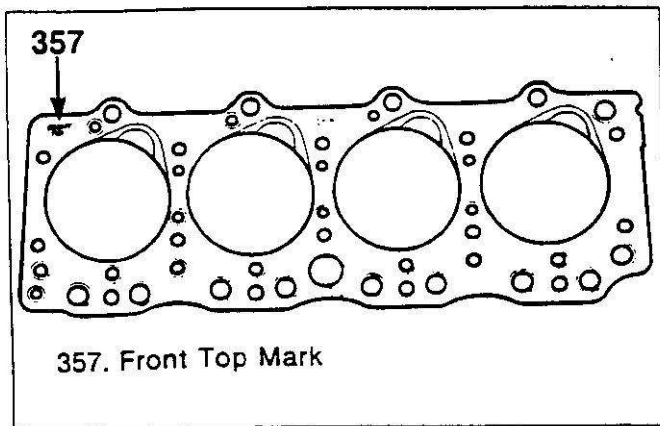
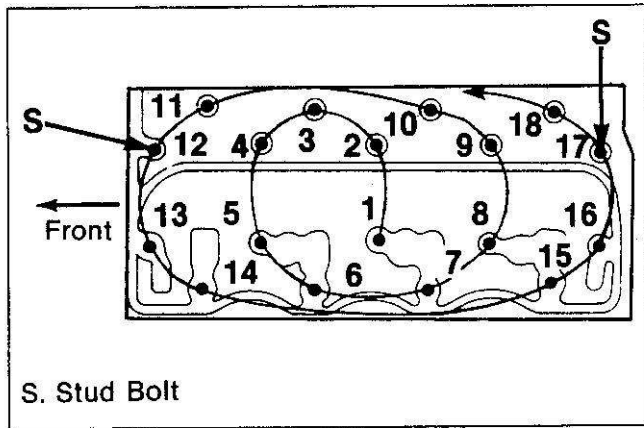
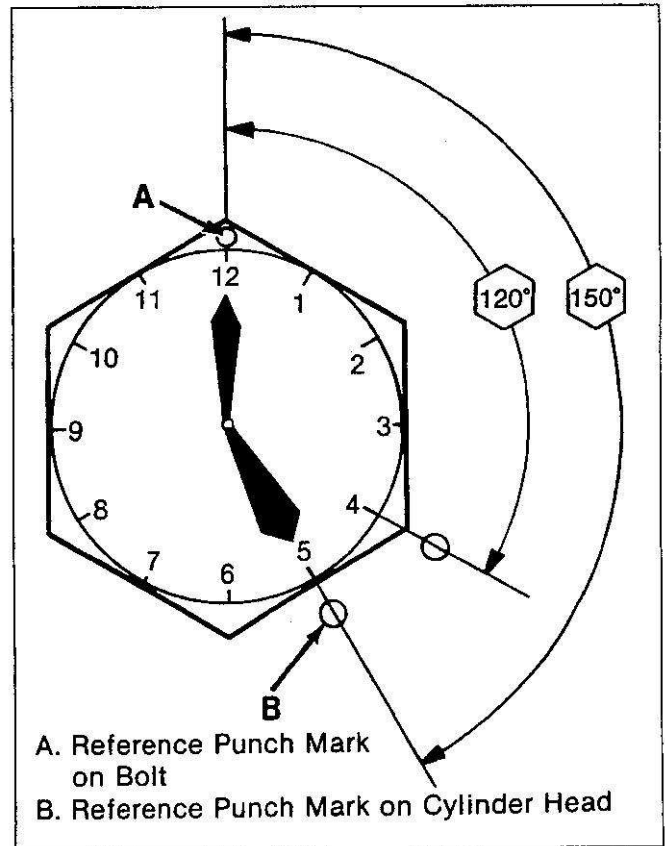

Figure 43. Head Gasket Marking
Figure 44. Head Bolt Tightening Sequence
Figure 45. Angle Torquing Method for Cylinder Head Bolts
1. Head gasket (63) to the block. The "FRONT-TOP" mark on the gasket must be right side up, at the front of the block (figure 43).
2. Cylinder head (14).
- Apply grease containing molybdenum disulfide to all head bolts (64).
3. Head bolts (64). The stud bolts are used on the right side (injection pump side) of the cylinder head (figure 44).
- Stage 1: Tighten all head bolts to 68 N·m (50 lb·ft) using the tightening sequence shown in figure 44.
(65 lb·ft) using the tightening sequence shown in figure 44.
- Stage 3: Refer to figure 45. Make punch mark on the bolt heads, as shown. Then, make a second punch mark on the head, 120–150 degrees clockwise from the first mark, as shown. Then, tighten all head bolts 120–150 degrees, using the tightening sequence shown in figure 44.